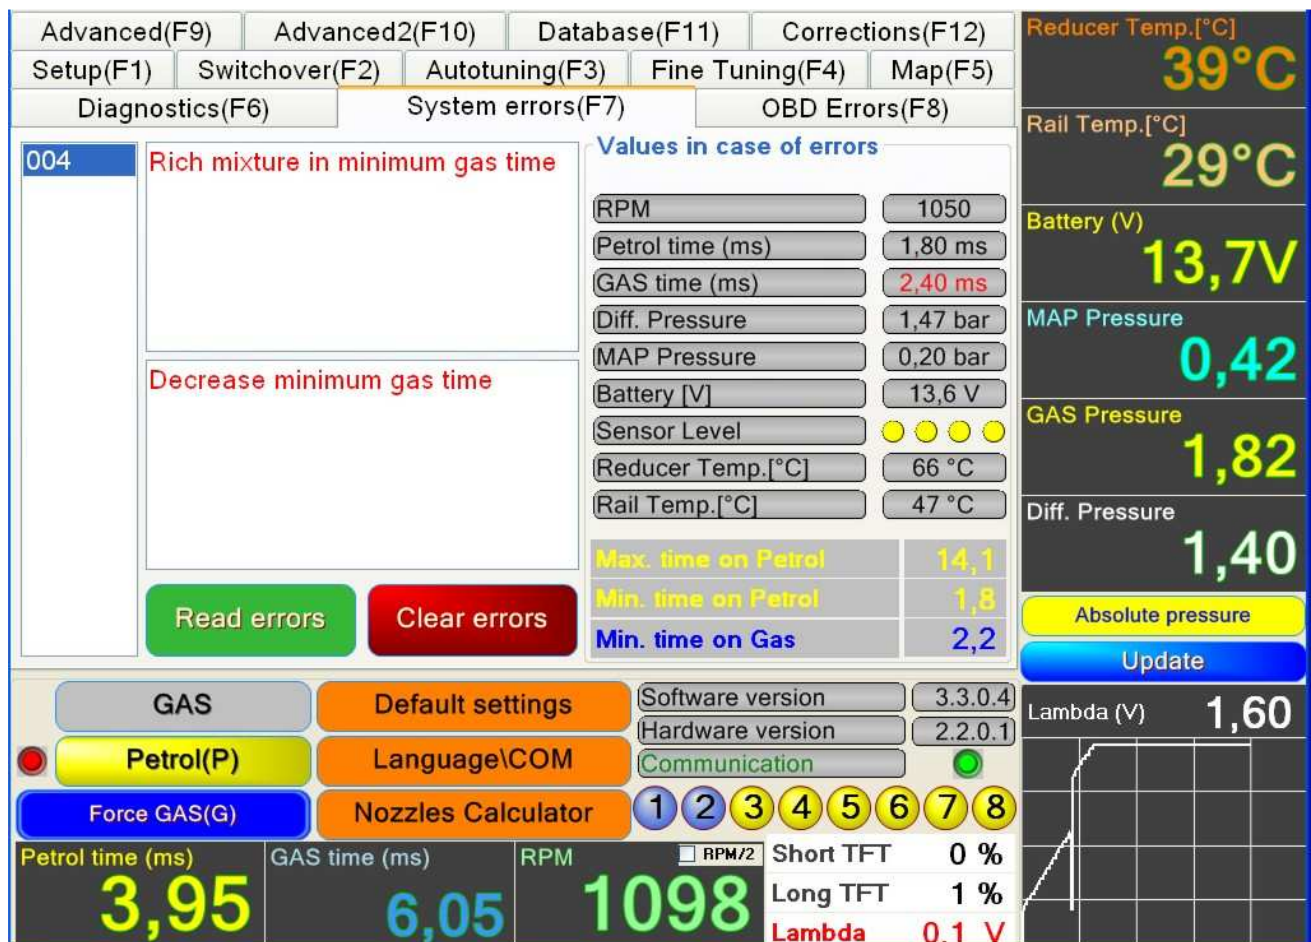

FIG.15
19. Menu "GAS system errors" - (F7) FIG.15